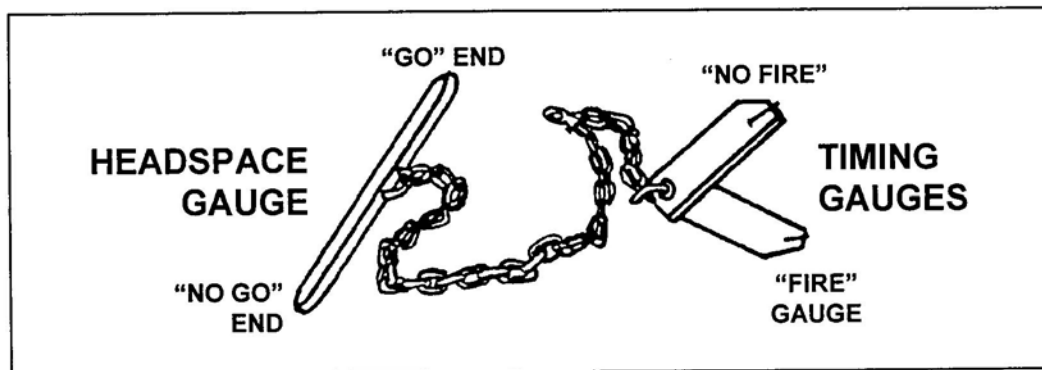

Figure 4. Headspace and Timing Gauge
- f. Pull the retracting slide handle back, until the barrel extension separates (not more than 1/16 of an inch) from the trunnion block. Make sure the GO/NO-GO gauge (Figure 4) has no broken, bent, rusted, or pitted areas, or other defects that could affect the weapon's dimensional tolerances.